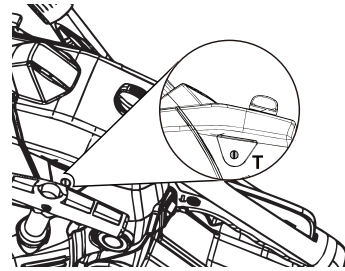

Fig. 55
2. Adjust the idle speed with the idle adjustment screw T which is identified with "T" mark (Fig. 55).